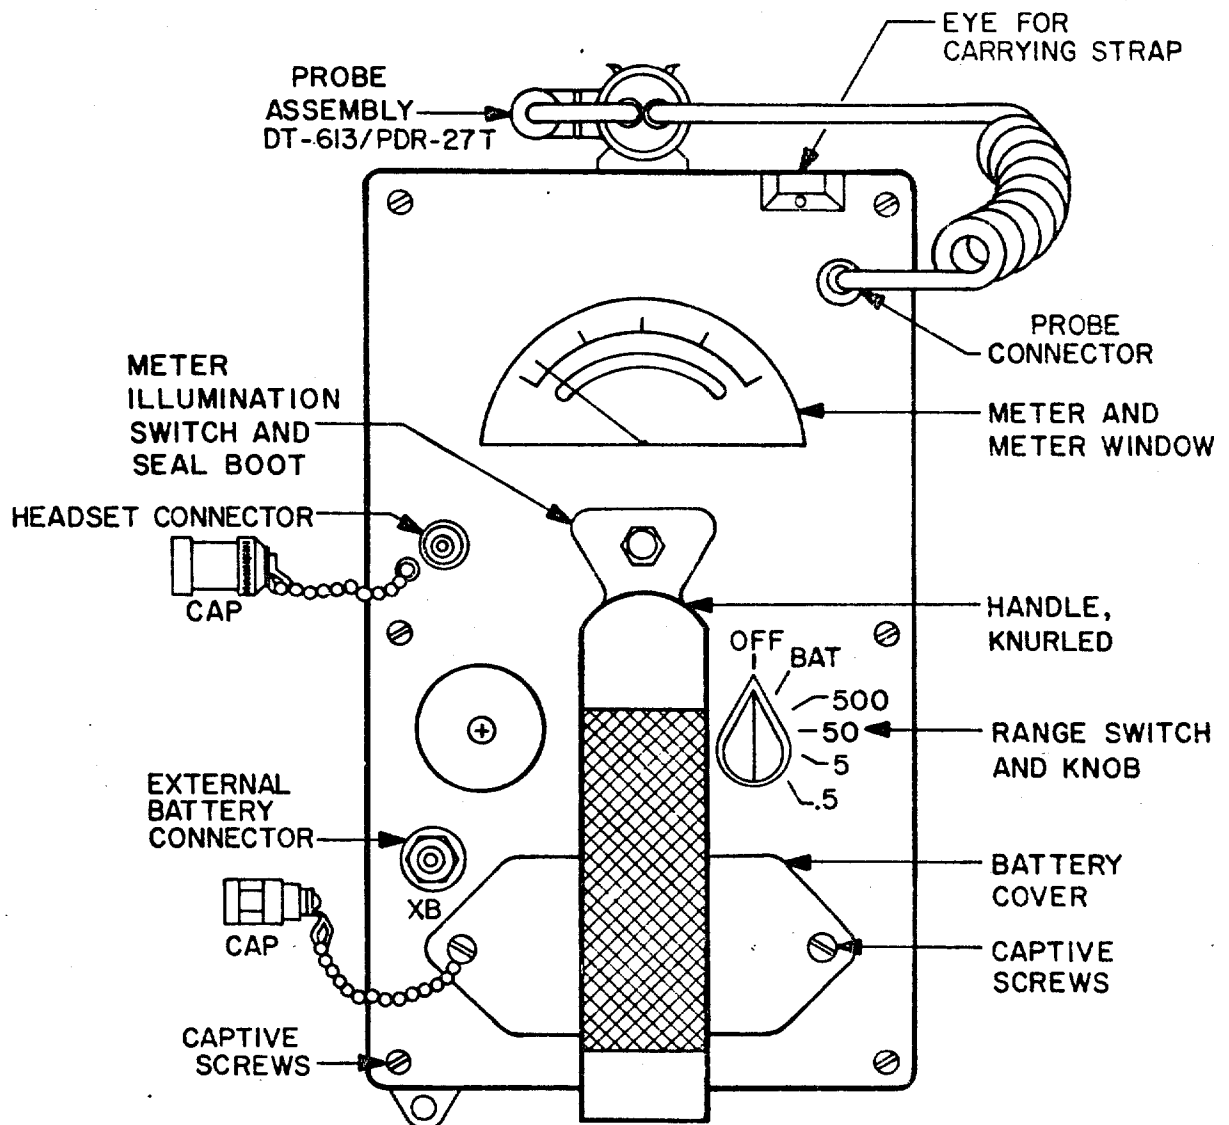

FIGURE 4-1. RADIACMETER IM-238A/PDR-27T, TOP PANEL CONTROLS
e. Carrying Strap P/N A6957. The shoulder harness, an adjustable strap made of non-absorbent plastic, is used for carrying the radiacmeter during operation. Clip fasteners on each end of the strap snap into holes in small projections on the radiacmeter panel (Figure 4-1).
4-2. CONTROLS AND INDICATORS. Figure 4-1 shows the operating controls. A single six position selector switch turns the unit on, provides for battery (BATT) check and selects the 500 mR/hr, 50 mR/hr, 5 mR/hr or .5 mR/hr ranges.